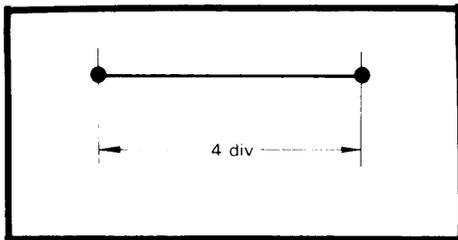

Fig. 26. Horizontal Gain Adjustment.
3. Adjust VR111 to obtain 4 divisions of horizontal deflection (Fig. 26).